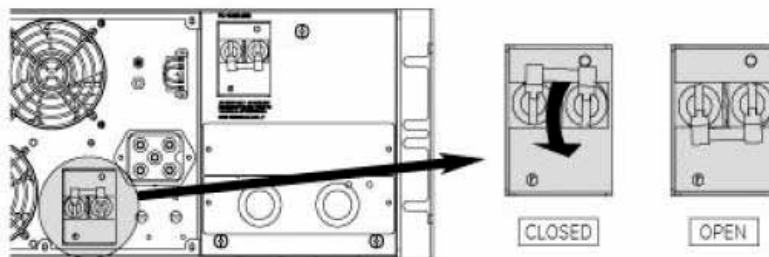
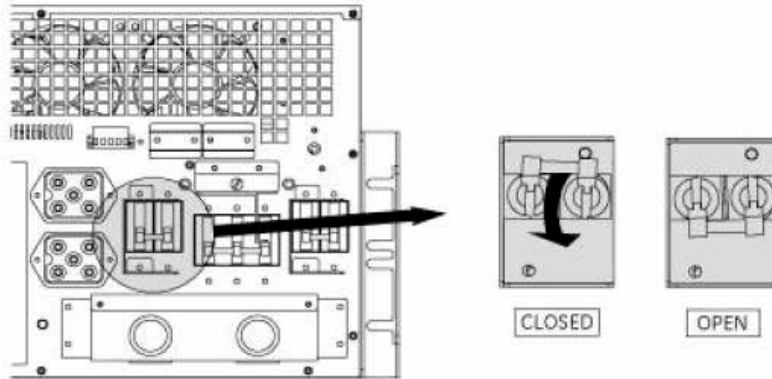

FIG 51 – 6KVA OUTPUT BREAKER
FIG 52 – 10KVA OUTPUT BREAKER
4. Turn the OUPUT CIRCUIT BREAKER to OFF position (FIG 51 or FIG 52).
2. In case external battery packs are used, switch on the battery pack circuit breaker (FIG 51).
3. Ensure that the bypass circuit breaker on the UPS is turned to the “UPS” position (FIG 52), or that the protection bar is still mounted.